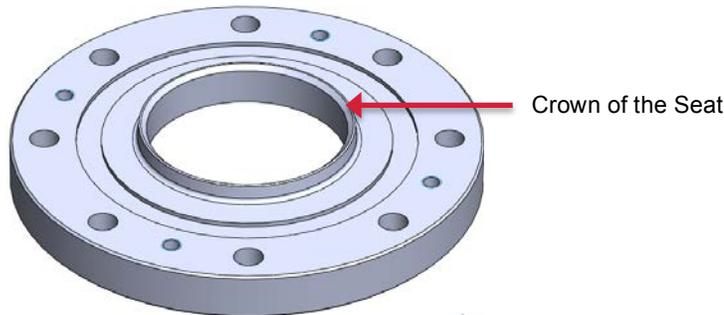

Figure 4-7 Valve Body
4.1.5.1 The sealing surface is the crown of the seat, (see Figure 4-7). Clean the seat with emery paper (400 grit) then wipe it clean with a cloth and a suitable solvent. Run your fingernail around the surface to detect any flaws.